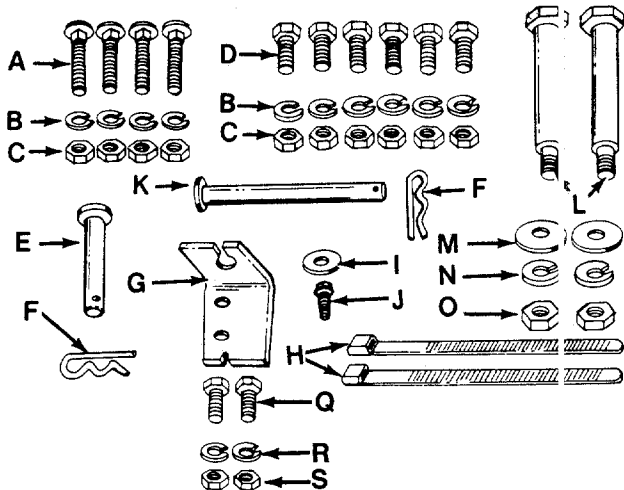

FIGURE 1.
- (1) Phillips Screwdriver
**Contents of Hardware Pack: (See Figure 1)**
- A (4) Carriage Bolts 5/16-18 x 1 3/4" Long
- B (10) Lock Washers 5/16" I.D.
- C (10) Hex Nuts 5/16-18 Thread
- D (6) Hex Bolts 5/16-18 x 3/4" Long
- E (1) Clevis Pin 1/2" x 2 1/2" Long
- F (2) Hairpin Cotters
- G (1) Clutch Cable Support Bracket
- H (2) Cable Ties
- I (1) Flat Washer
- J (1) Hex Washer Head Self-Tapping Screw 1/2" Long